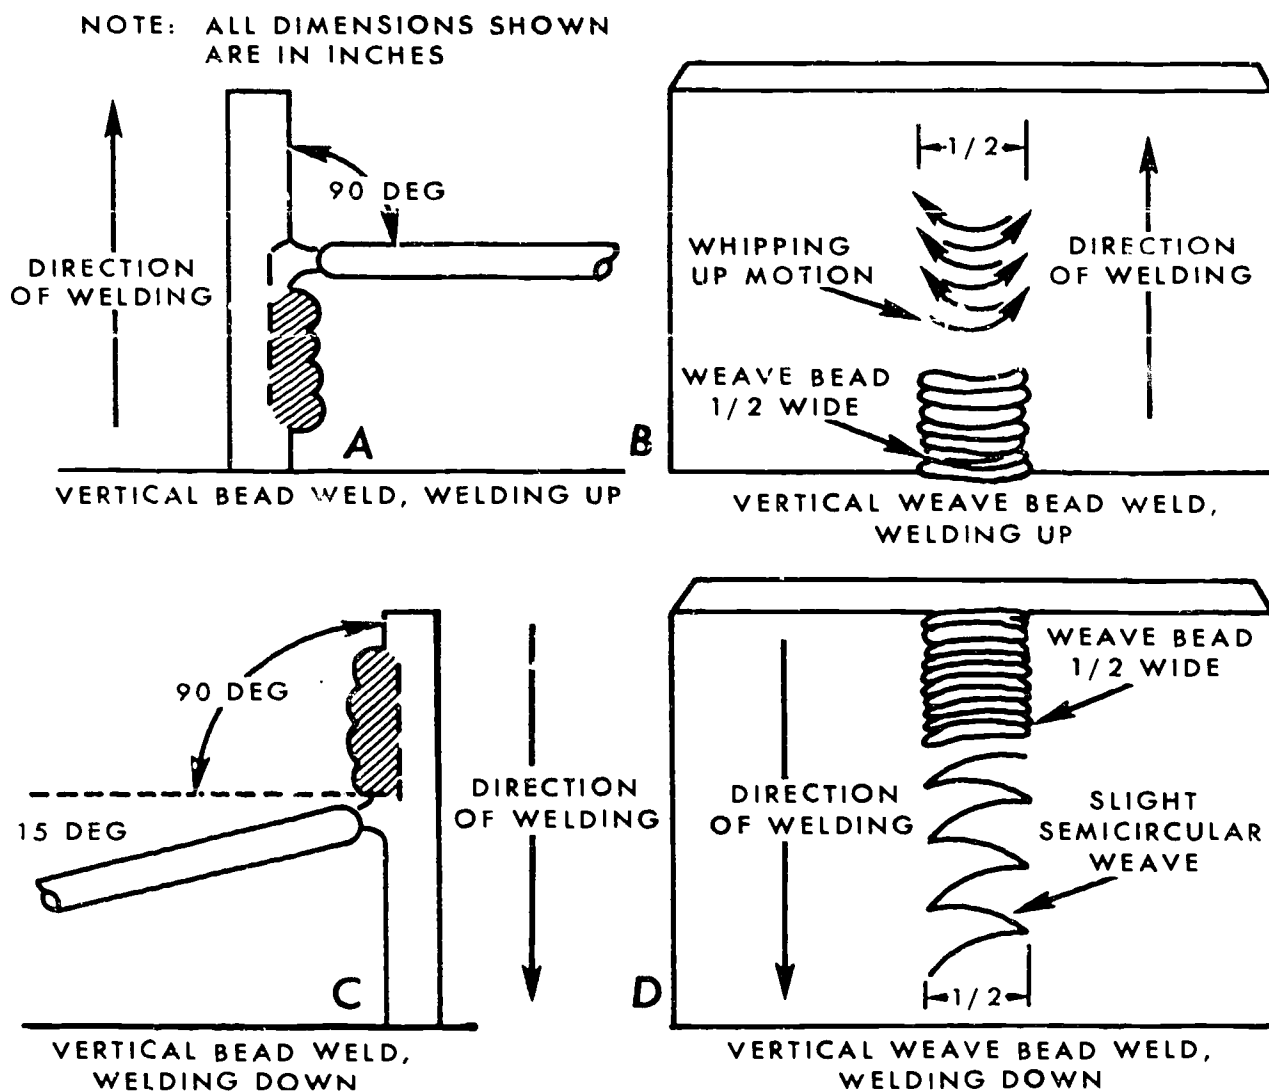

Figure 3-37. Bead welding in the vertical position.
**Bead Welds.** To weld upward, vertical up, hold the electrode  $90^\circ$  to the vertical, as shown in A, figure 3-37. To weld downward, vertical down, incline the outer end of the electrode downward about  $15^\circ$  from
the horizontal, with the arc pointing upward to the deposited molten metal, as shown in C, figure 3-37. To weld downward in the vertical position when a weave bead is required, oscillate the electrode, as shown in D, figure 3-37.